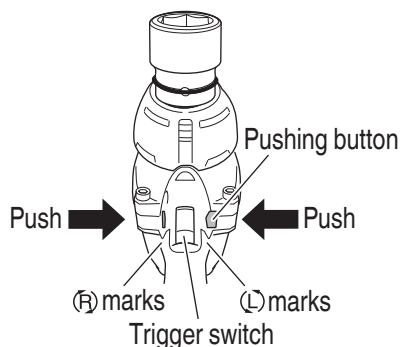

Fig. 10
The bit rotates clockwise (viewed from the rear side) by pushing the R-side of the pushing button. The L-side of the pushing button is pushed to turn the bit counterclockwise. (See Fig. 10). (The (L) and (R) marks are engraved on the body.)